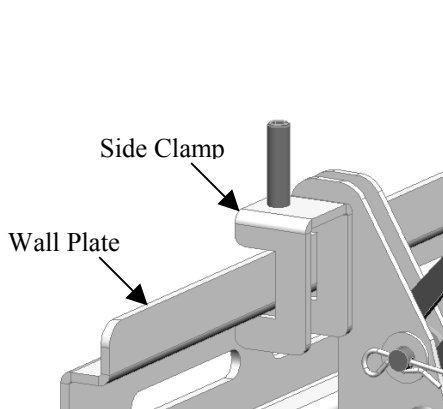

Figure 2
1. Place one side clamp over the lip of the wall plate, making sure that the clamp is installed on the inside or the outside of the flat screen hook mechanism, depending on the spacing of the mounting pattern. Place the second clamp on the opposite side of the mount (See Figures 2 & 3).